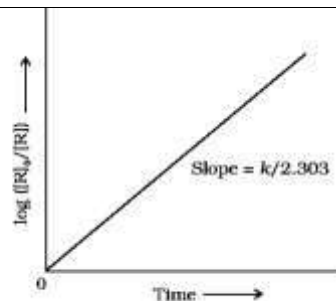

Fig. 4.5: Plot of  $\log [R]_0/[R]$  vs time for a first order reaction
- If we plot a graph between  $\log [R]_0/[R]$  vs  $t$ , (Fig. 4.5), the slope =  $k/2.303$